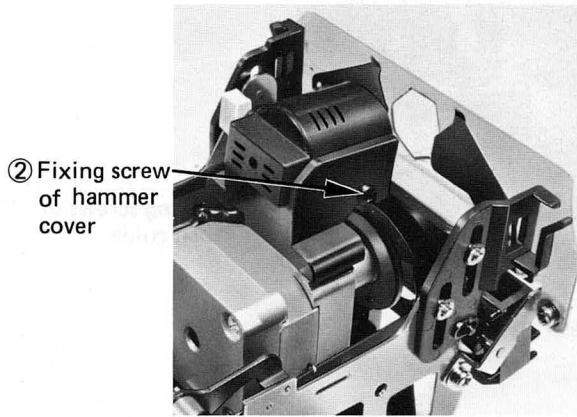

Fig. 5.22
- Step 4. Loosen two fixing screws ② of the hammer cover to remove the hammer cover. (Fig. 5.22)